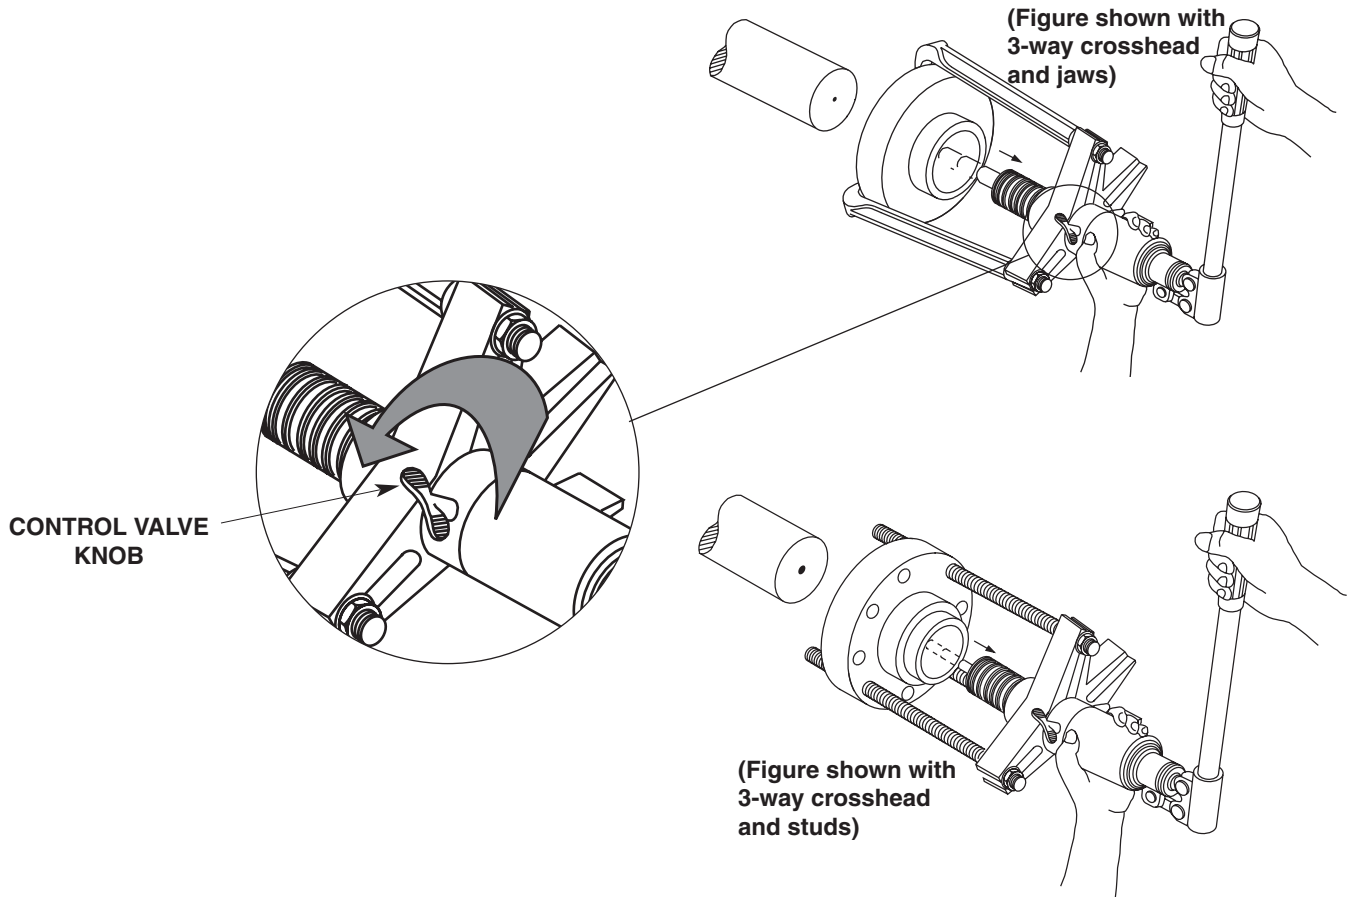

Figure 7
7. Turn the control valve knob completely in a counterclockwise direction to retract the piston. See Figure 7.